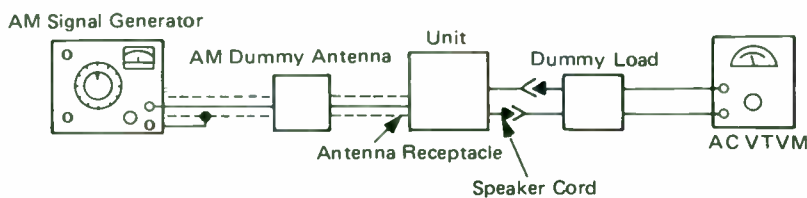

Figure 8
2. AM signal generator should be connected to dummy antenna, which in turn should be connected to the antenna terminal. (See Figures 8 and 9)